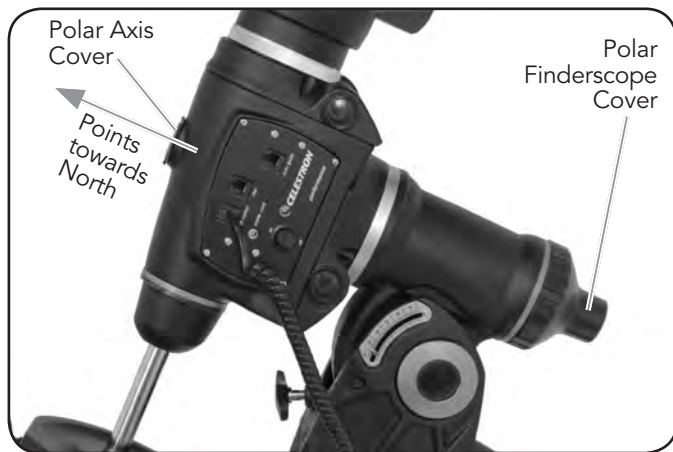

FIGURE 4-4
1. Set the telescope up so that the polar axis is pointing towards north (see figure 4-4).
2. Remove the polar finderscope cover and the polar axis cover from both sides of the mount. The polar finderscope cover unthreads from the rear of the mount and the polar axis cover simply press fits into the front of the mount. See figure 4-4.